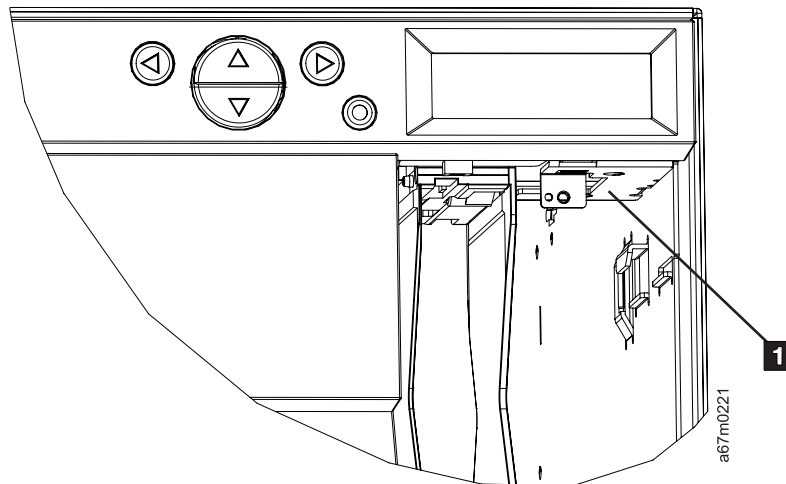

Figure 93. Connecting the Bar Code Scanner
- ___ 5. Locate the two receptacles inside the library underneath the LCD screen. Insert the connector on the bar code scanner into the **rear** receptacle as shown in Figure 93 on page 214.